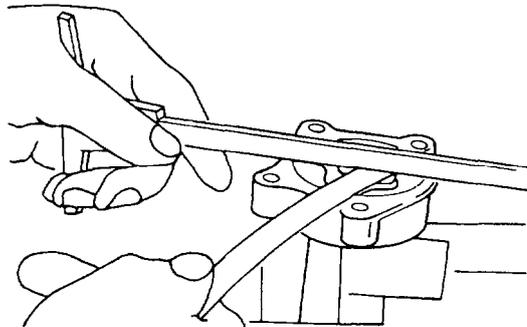

Figure 30 Checking Rotor to Cover Clearance
- g. Hold the complete assembly in a soft-jawed vice and using a straight edge and feeler gauge, check the clearance between the inner rotor, the outer rotor and the cover (Figure 30). The clearance should be 0.050 to 0.114 mm (0.0020 to 0.0045 in). If it is outside this limit, replace the gear set.